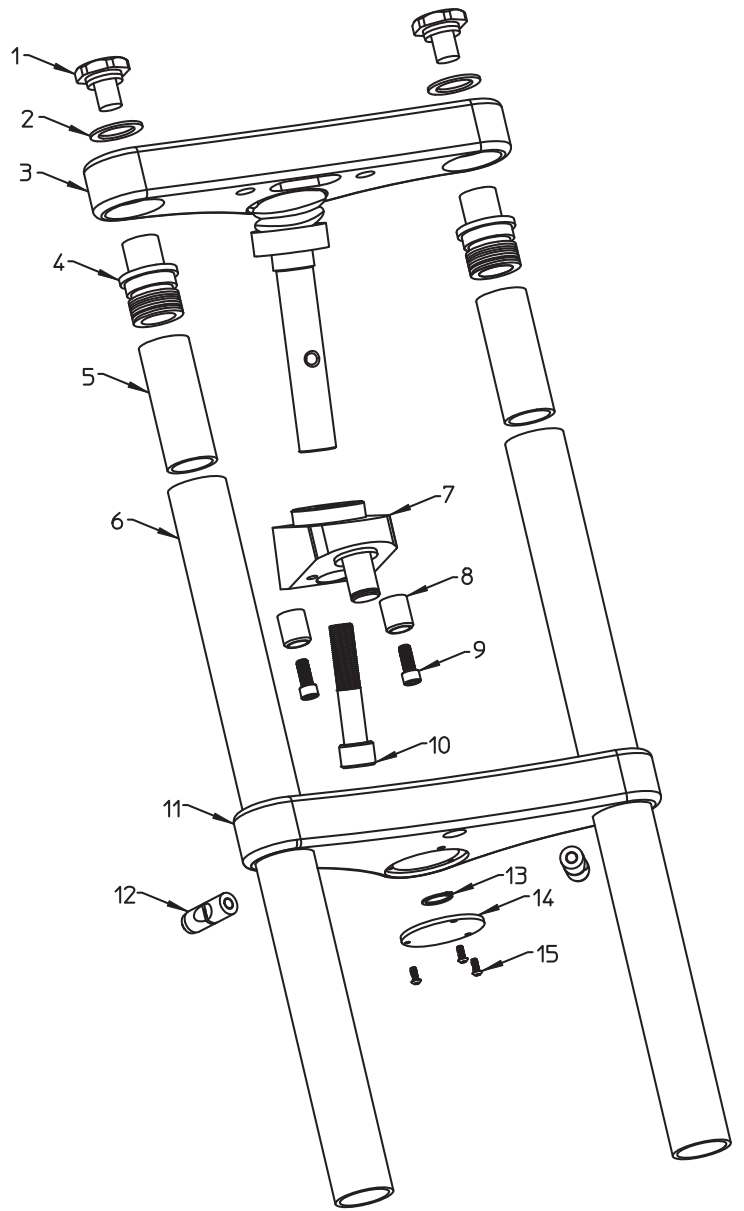

Figure 2
9. Place a small amount of grease on the inside of the top bearing race seat. Then set the top tree assembly (3) on the steering head.
10. Remove the fork stops (8) and insert the stem bolt (10) through the bottom of the adapter (7) and as you insert it into the bottom of the steering head, tighten the screw into the shaft of the top tree assembly. This will seat the adapter and the top tree assembly into the steering head. Torque to 148 ftlbs (Make sure you position the adapter in the steering head so that it is facing straightahead when tightening the stem. If it's not straight after tightening, loosen the stem bolt and with a heavy rubber hammer, tap the side of the adapter to make it straight.
12. Remove fork tubes from lower legs and replace with longer fork tubes (6). Be sure to remove the o-ring from the original tube plug and place on the tube plugs (4) included in the kit (if provided) Note: Refill with the factory recommended amount of fork oil. Refer to service manual for you year motorcycle for the exact amount of oil. (Extra oil is NOT needed for extended tube). Use stock pre-load when assembling forks. Spring spacers (5) included may, or may not need shortened.
13. Remove bearing cover (14) from the underside of lower tree and position the tree so it's bearing will slide up on the shaft of the offset adapter. Install retaining clip (13) on shaft to hold lower tree in place for next step. **(Use extreme caution installing fork tubes, according to your repair manual. A second person to help align the trees during this step is recommended. We are not responsible for scratched tubes)**
14. Align locking cams (12) in bottom tree so the tubes can slide thru. Insert the fork tubes thru the trees and install the fork tube caps (1) and washer (2). *Locking cam should have a min of 1/4" gap between the 2 halves to allow the tube to slide thru.*
15. Position the bottom triple tree on the adapter shaft leaving at least 1/8" of space between the bottom of the adapter block and the bearing. *(see figure 2)*